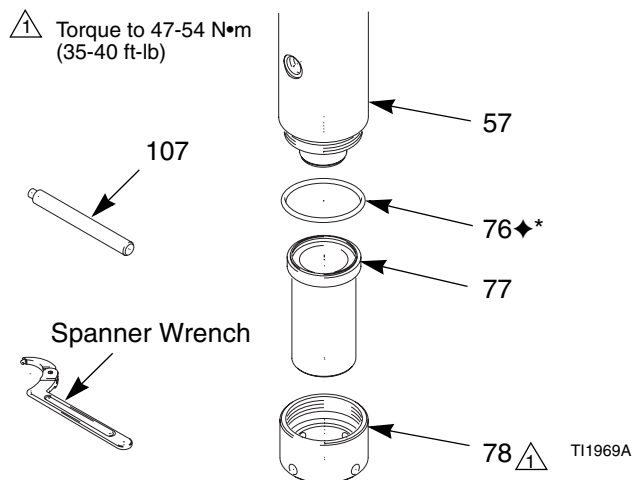
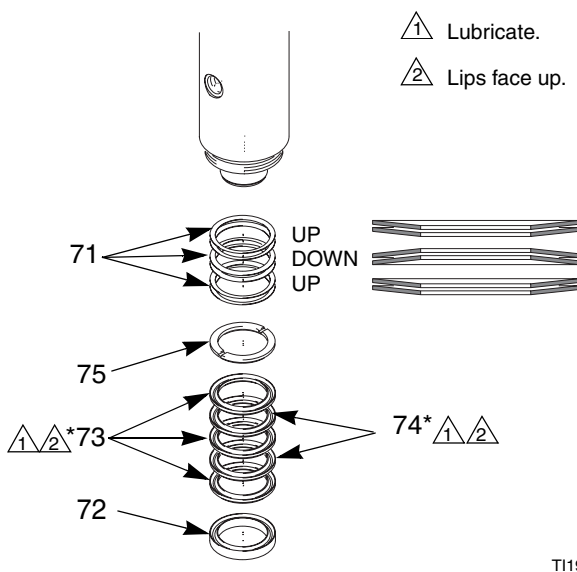

FIG. 13. Lower Cylinder
FIG. 14. Piston Packings
2. Using the supplied tool (107) or a spanner wrench, unscrew the union nut (78) from the upper cylinder (57) and slide it off the pump. Remove the lower cylinder (77) and the flat seal (76). Inspect the inner surface of the cylinder for damage. See FIG. 13.
3. Remove the piston packings. See FIG. 14.
6. Install the o-ring (55♦) and seat (54♦) in the piston body (56). Install the large o-ring (53♦). Lubricate the o-ring (53♦) and threads of the piston. Place the ball (52♦) on the seat. Screw the piston into the rod (51). Torque to 102-108 N•m (75-80 ft-lb).
7. Install the seal (76♦) on the lower cylinder (77). Install the female gland (72), v-packings (73*, 74*), and male gland (75) into the cylinder. Alternate the v-packings, with the lips facing up. See FIG. 14.
9. Assemble the spring discs (71); the bottom two face up, middle two face down, top two face up. Place the spring on top of the packing stack.
10. Position the lower cylinder (77) over the end of the displacement rod (51), sliding the packing stack onto the rod and into the upper cylinder (57).
11. Slide the union nut (78) onto the lower cylinder (77) and thread it onto the upper cylinder (57). Tighten with a spanner wrench. Torque to 47-54 N•m (35-40 ft-lb). See FIG. 13.